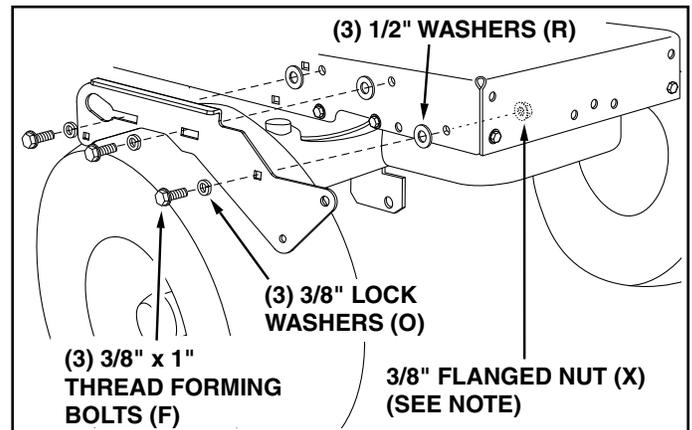

FIGURE 23 RIGHT SIDE VIEW
STEP 24: (SEE FIGURE 23)
- Fasten the R.H. Side Plate (21) (bend facing out) to the three holes shown in the tractor frame. Use three 3/8" x 1" thread forming bolts (F), 3/8" lock washers (O), and 1/2" washers (R). Use the 1/2" washers as shims between the Side Plate and the tractor frame. Tighten all bolts and repeat for the L.H. side.